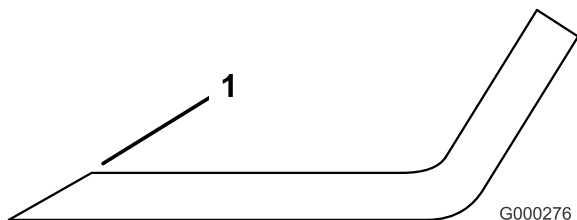

Figure 87
1. Use a file to sharpen the cutting edge at both ends of the blade (Figure 87). Maintain the original angle. The blade retains its balance if the same amount of material is removed from both cutting edges.